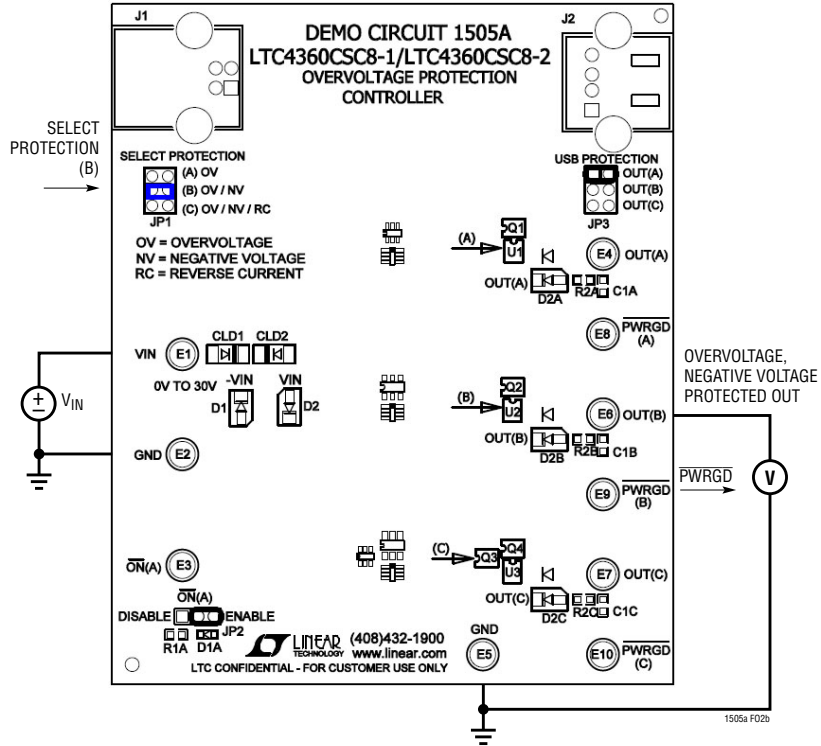

Figure 2b. DC1505A Protection (B) Setup for Overvoltage, and Negative Voltage
- b. For overvoltage and negative voltage protection select “(B) OV/NV” and connect to OUT(B) (Figure 2b).